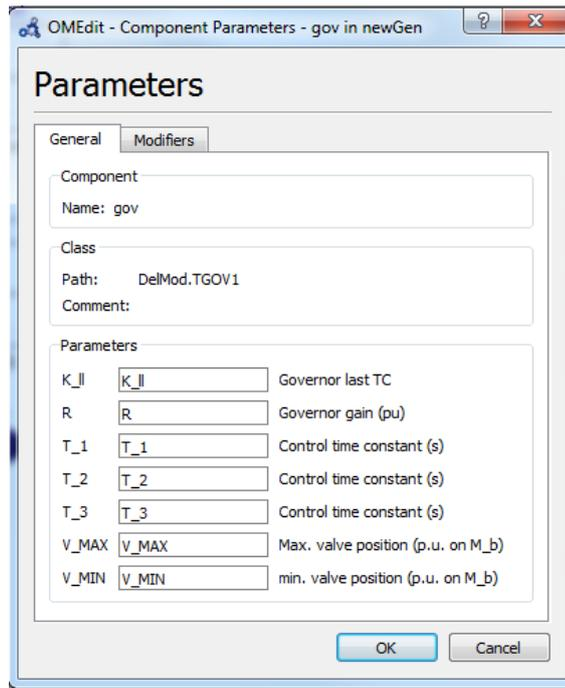

Figure 7: GOV parameters
6. In the diagram view of the generator workspace, open the Governor dialog and fill the text spaces next to parameter names as shown in Figure 7.